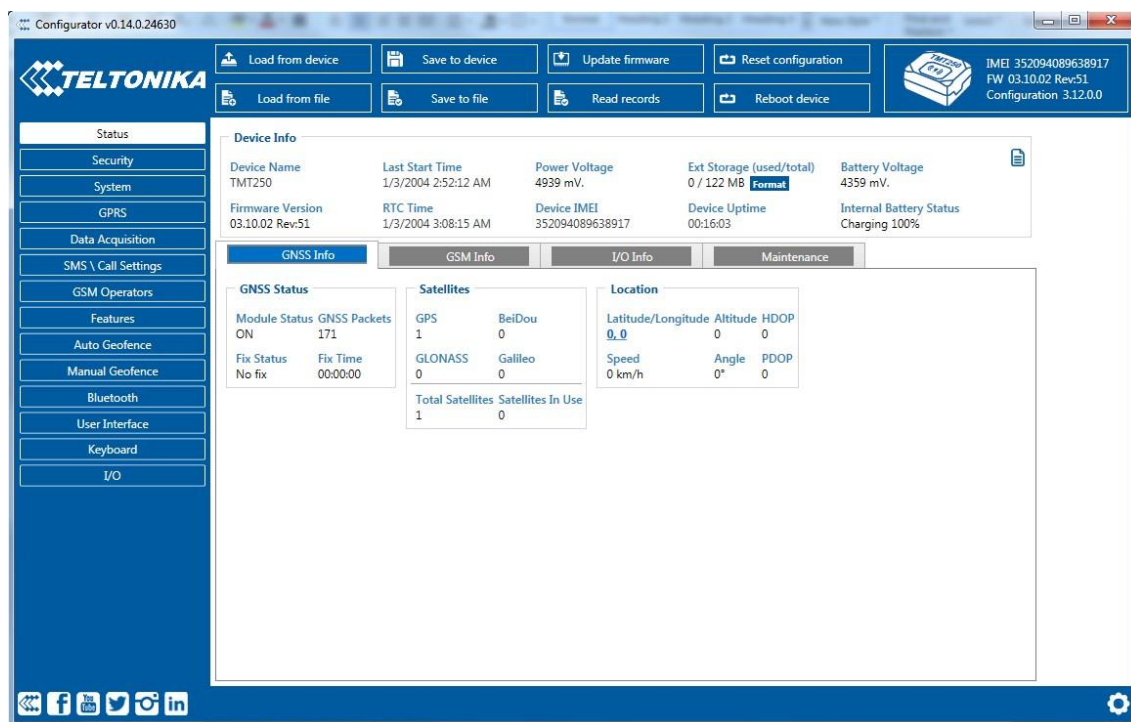

Figure 7 TMT250 status elements
- Connect to device (Figure 7)* – connects device.